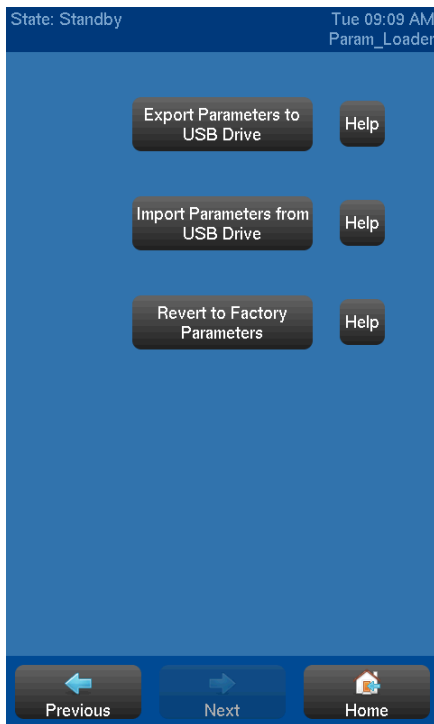

Figure I-1:
- 6) To upload parameters from the NURO to a USB flash drive, press <**EXPORT...>** [Figure I-1].
- 7) To download parameters from a USB flash drive to the NURO, press <**IMPORT...>** [Figure I-1].
- 8) To revert to factory-default OEM parameters, press <**REVERT...>** [Figure I-1] and enter the appropriate Service Level passcode.